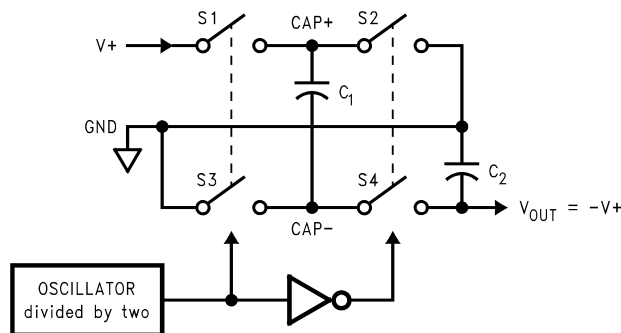

Figure 10. Voltage Inverting Principle
The LM2664 contains four large CMOS switches which are switched in a sequence to invert the input supply voltage. Energy transfer and storage are provided by external capacitors. Figure 10 illustrates the voltage conversion scheme. When S_1 and S_3 are closed, C_1 charges to the supply voltage $V+$. During this time interval, switches S_2 and S_4 are open. In the second time interval, S_1 and S_3 are open; at the same time, S_2 and S_4 are closed, C_1 is charging C_2 . After a number of cycles, the voltage across C_2 will be pumped to $V+$. Since the anode of C_2 is connected to ground, the output at the cathode of C_2 equals $-(V+)$ when there is no load current. The output voltage drop when a load is added is determined by the parasitic resistance ($R_{ds(on)}$ of the MOSFET switches and the ESR of the capacitors) and the charge transfer loss between capacitors. Details will be discussed in the following application information section.
- R_{SW} is the sum of the ON resistance of the internal MOSFET switches shown in Figure 10. (1)